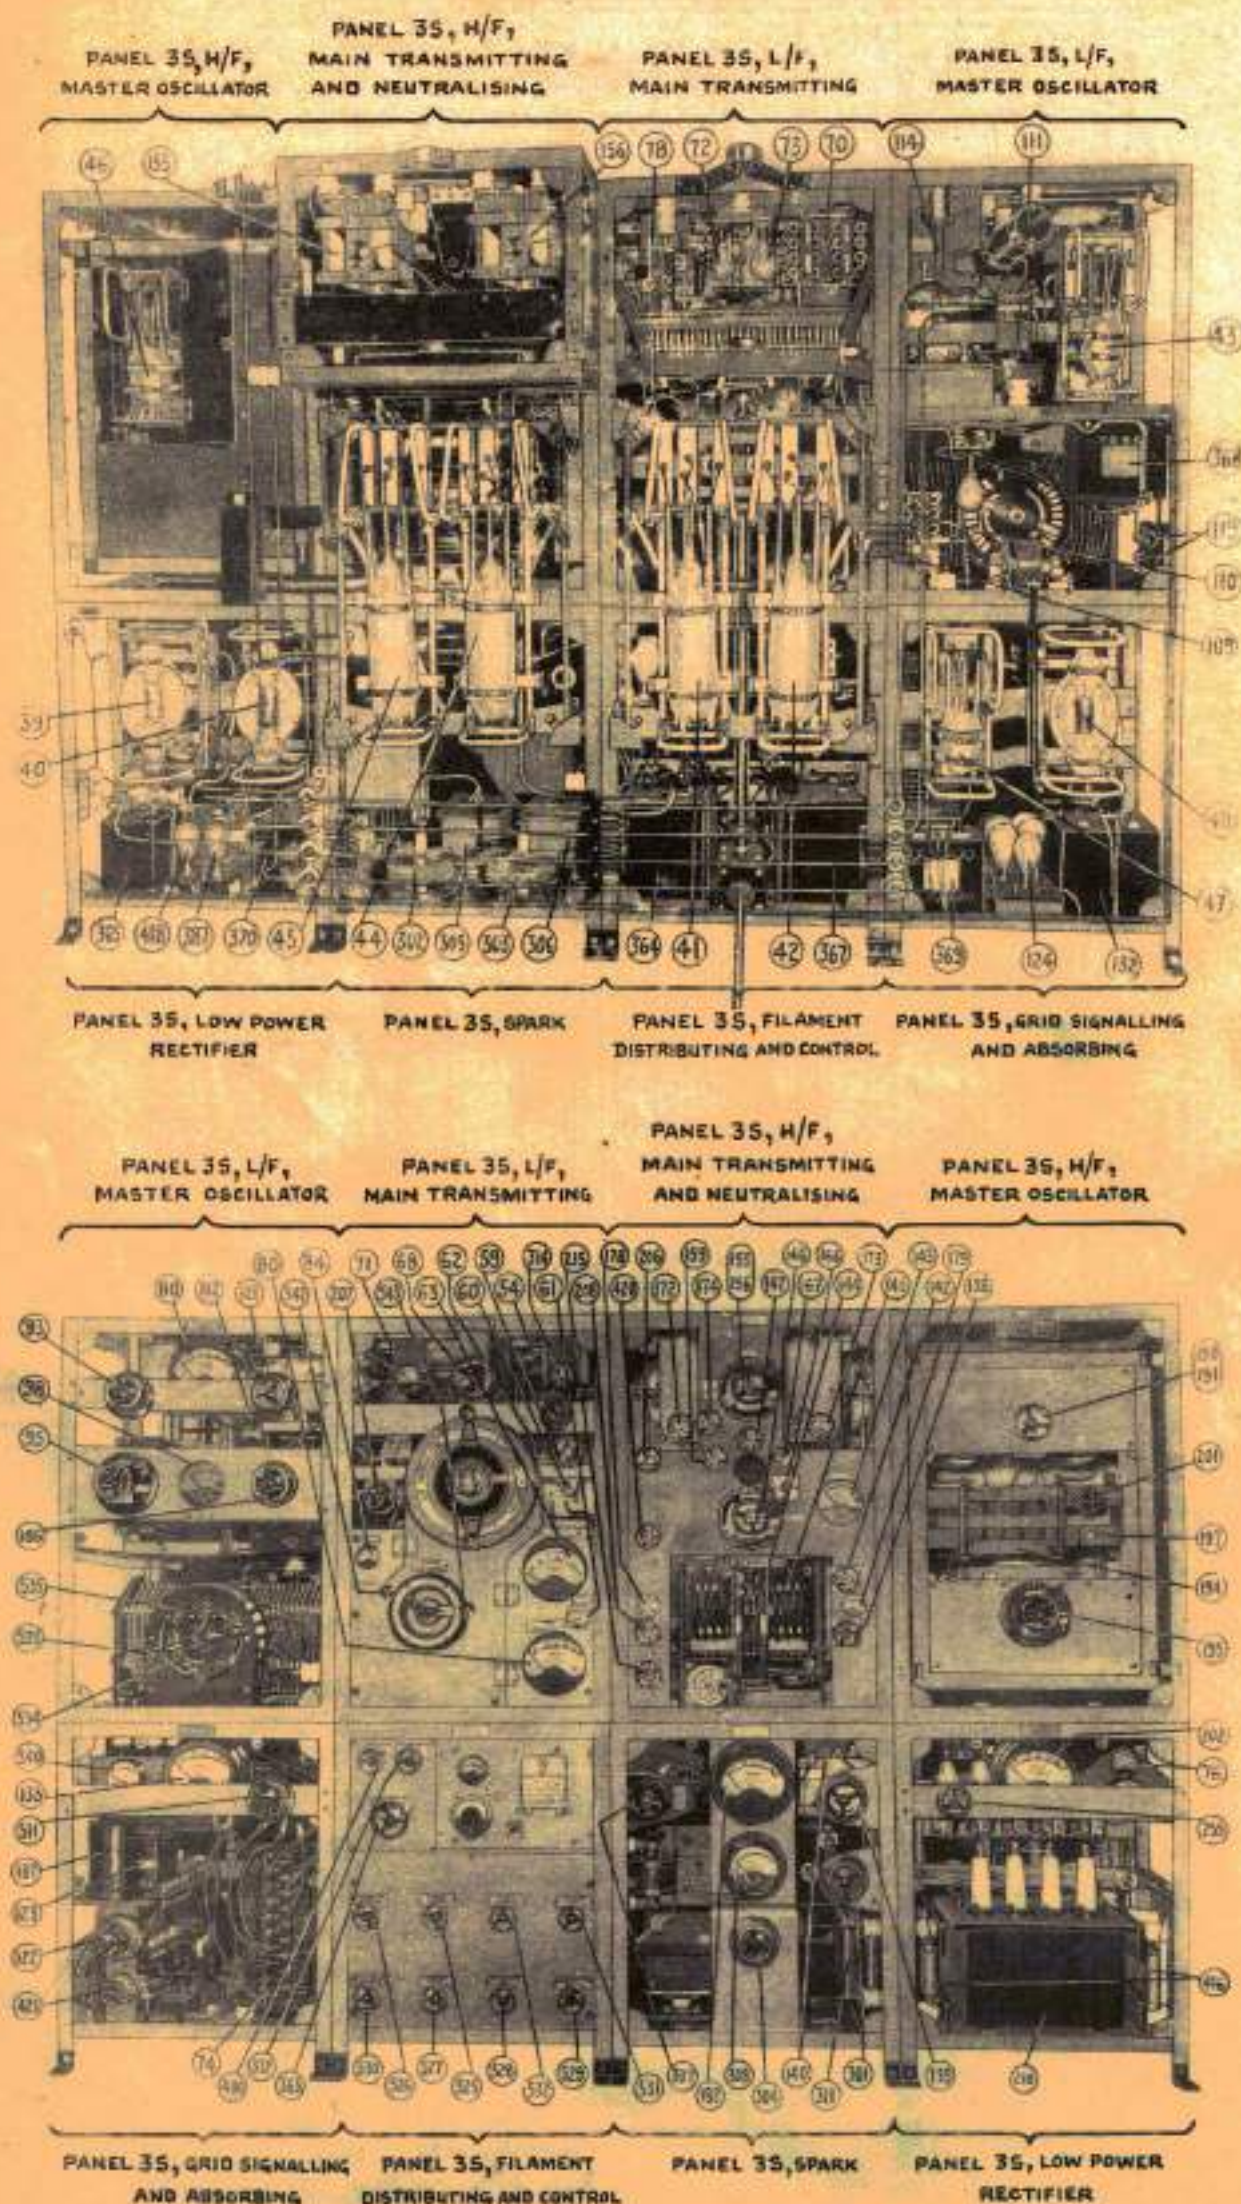

Fig. 3
The tottin circuit of the master keys (469)(470) is connected to contacts on the magnetic switches (442)(443)(444)(445) and serial C.O.S. (50). The L.P. and main alternator magnetic switches (442)(443) are made when the filament and main alternators are supplying power to the set and the second and D/P office magnetic switches (444)(445) close when the second and D/P office serial switches are earthed. (See figure 3).